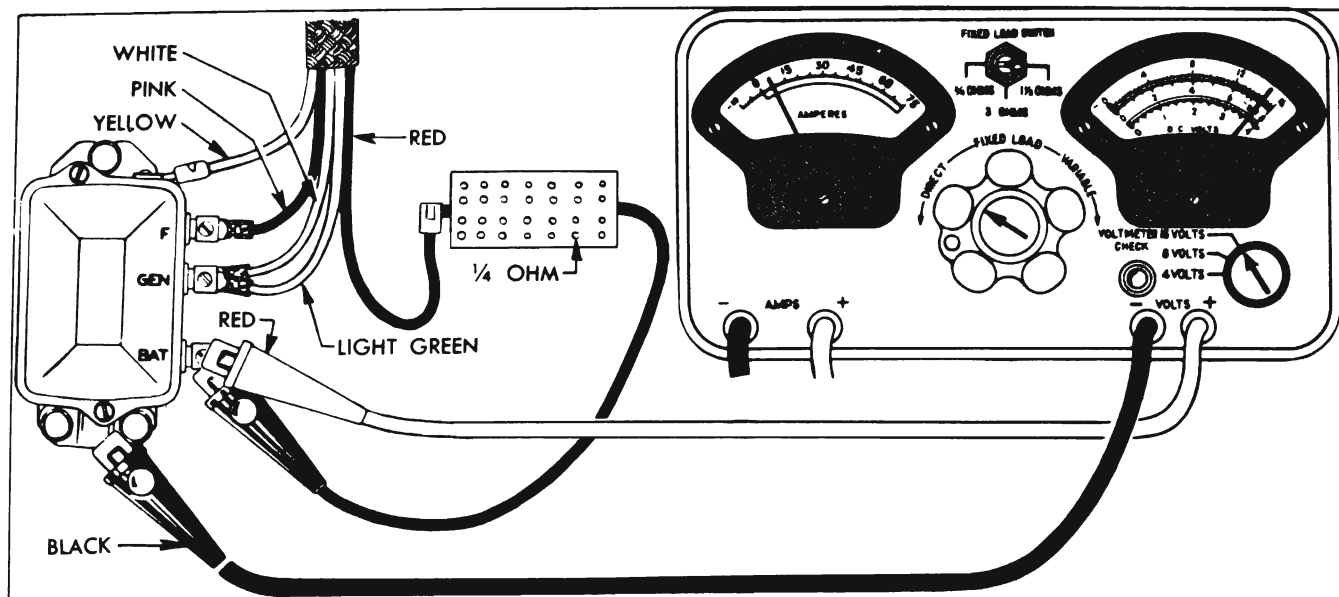

Figure 10-14—Voltage Regulator Test Connections—Sun Tester
13. Disconnect the ammeter leads, then install a  $\frac{1}{4}$  ohm (25 watt min.) resistor in series between the "BAT" terminal and the disconnected (red) battery wire. See figure 10-14.